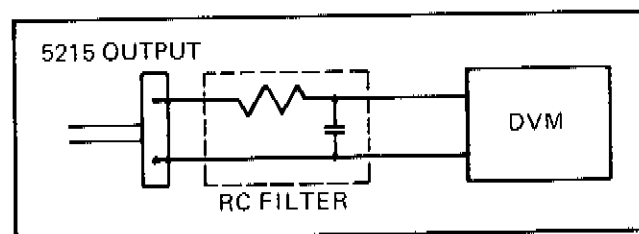

Figure 4-9. DC Offset Test Connections
- d. Connect the equipment as shown in Figure 4-9.